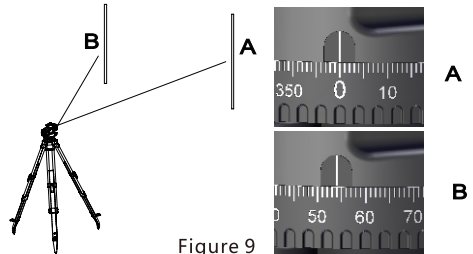

Figure 9
① Direct instrument to staff A and turn Horizontal Circle to "0" .(Figure 9)